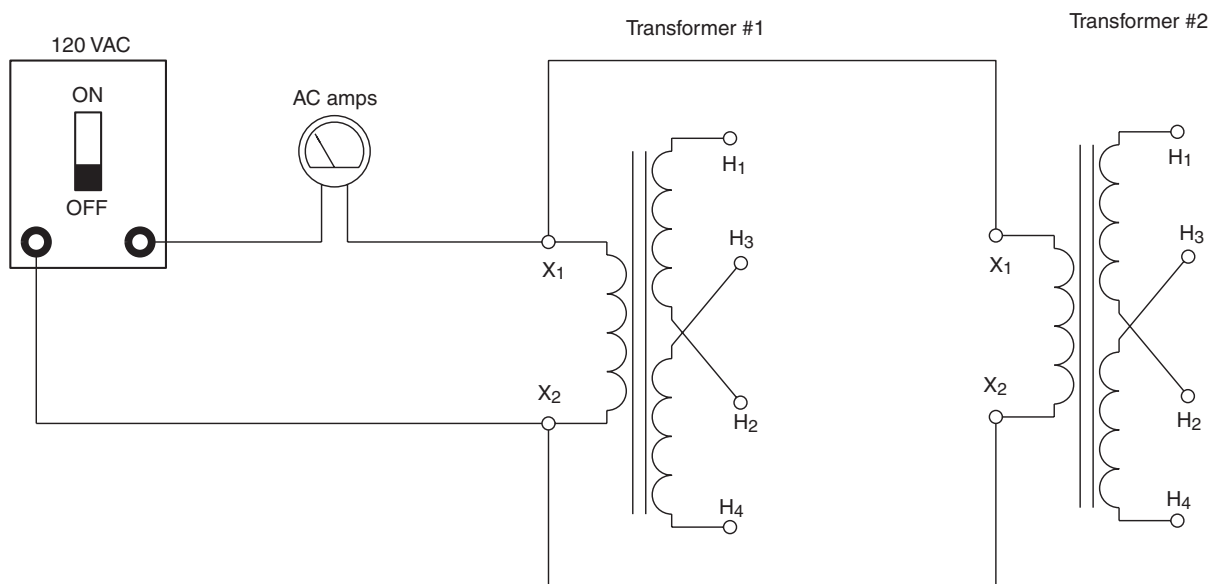

Figure 10-4 Parallel inductors.
25. Using both transformers, connect the circuit shown in Figure 10-4.
27. Calculate the value of X_{LT} for the circuit shown in Figure 10-4. Use the value of L_T as calculated in step 26 for the value of L in the formula.